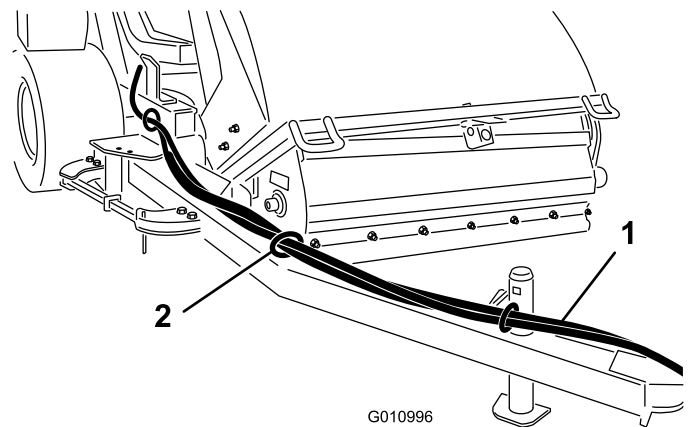

Figure 10
1. Route the hydraulic hoses and wiring harness through the hose guides to the front of the hitch tongue (Figure 10).